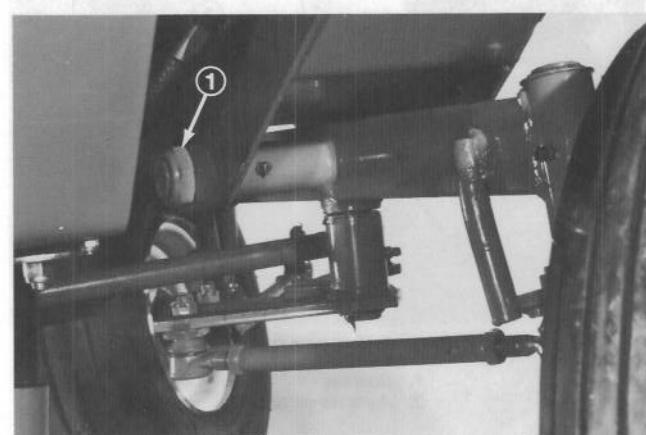

Figure 41
2. Remove large locknut from end of rear axle pin (Fig. 41).
10. Install large locknut on end of axle pin (Fig. 41). Tighten locknut until all forward and backward movement of the axle is eliminated. However, the axle must still pivot freely.
13. Install large locknut on end of axle pin (Fig. 41). tighten locknut until all forward and backward movement of the axle is eliminated. However, the axle must still pivot freely.